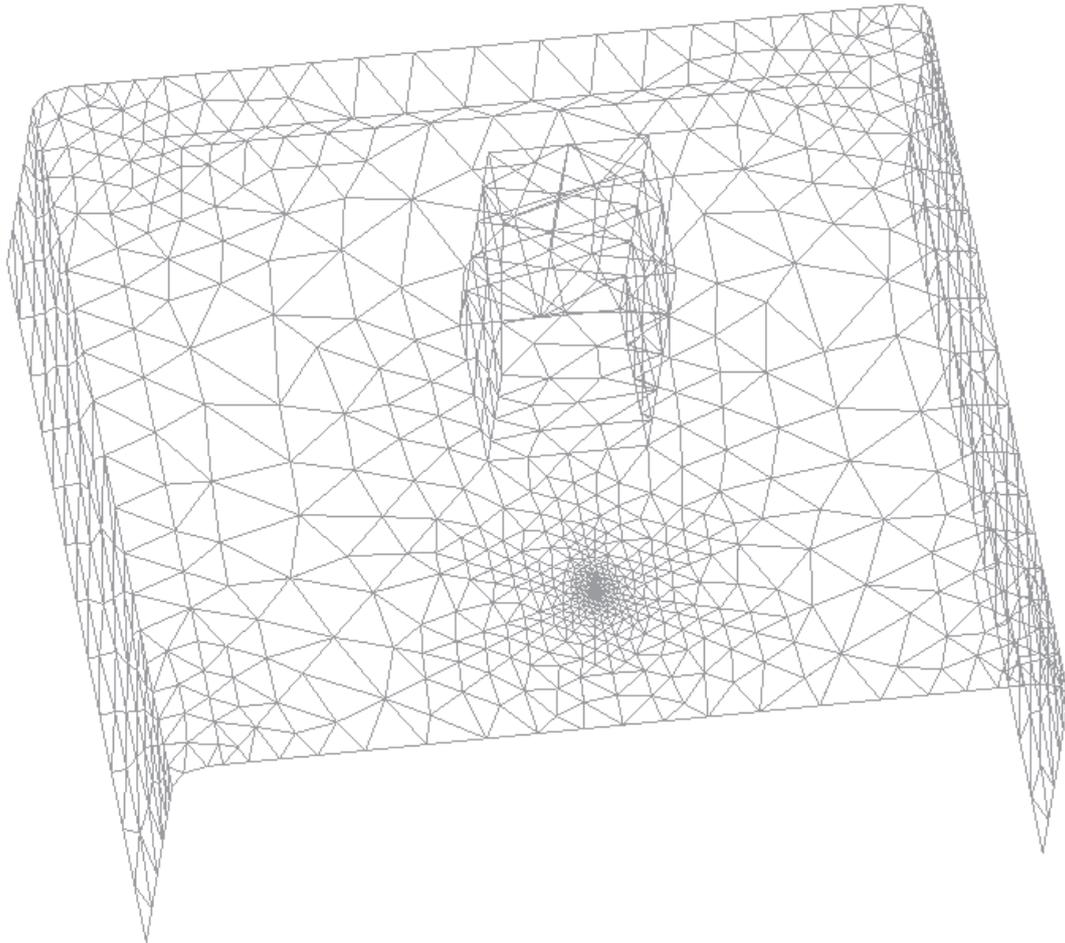

Figure 6. Mesh with the elements concentrated around a point, with a size gradient of 0.4.
- 10 . The size gradient (0.4) results in a higher density around the point (see Figure 6).